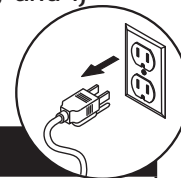

**Figure 63.** Location of table micro-adjustment screws (one side shown only).
9. If necessary, micro-adjust table position by loosening cap screws shown in **Figure 63** and raising or lowering table until it is properly aligned with cutterhead.